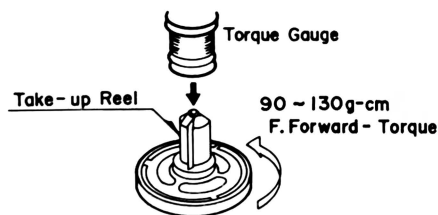

Figure 7
1. Measure the F-FWD torque value. Torque of more than 90 g-cm is necessary for Fast-Forward operation (Figure 7).